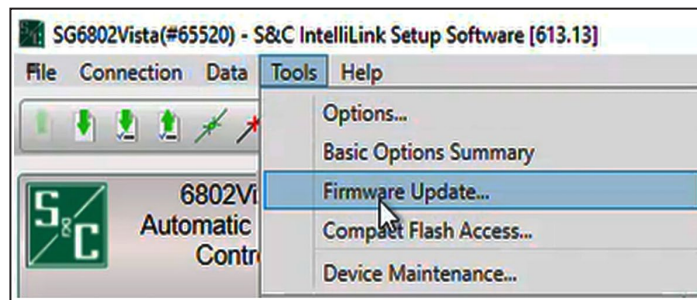

Figure 18. The Tools>Firmware Update menu option.
**STEP 7.** When the firmware update Choose Revision dialog box appears, select the firmware version to update the control to. See Figure 18.